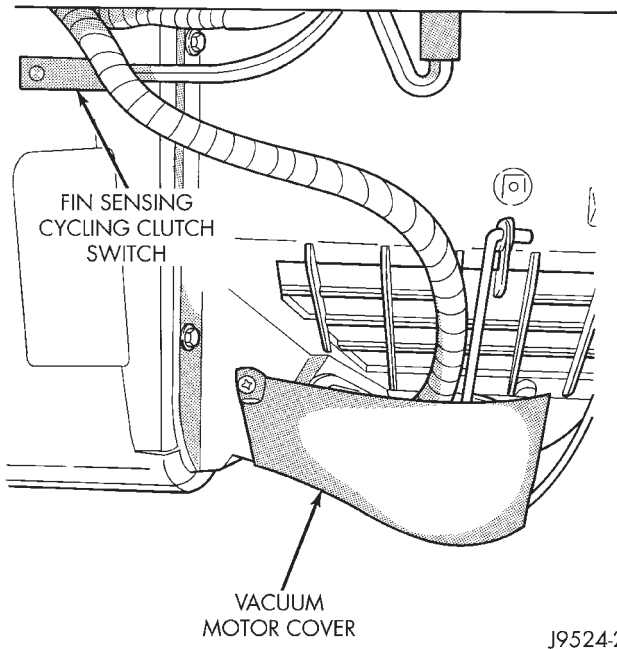

Fig. 14 Vacuum Door Motor Cover
- (1) Remove the vacuum motor cover (Fig. 14).